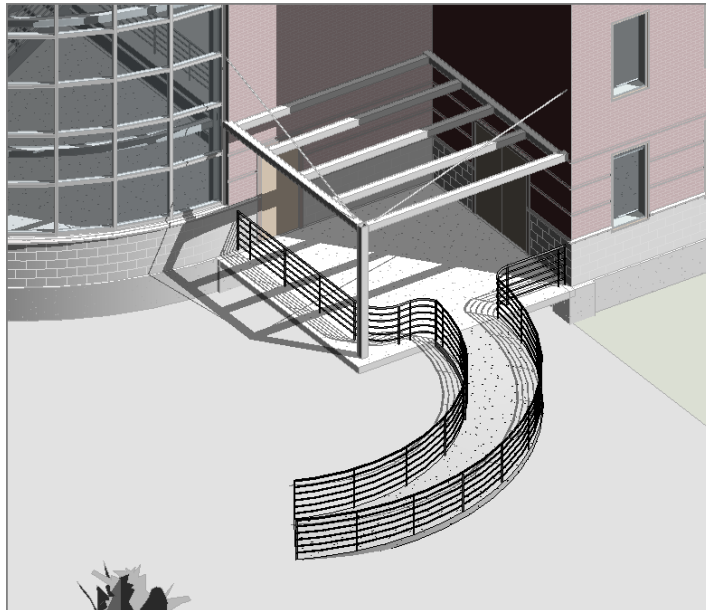

FIGURE 21.13: The curved option
2. The L-shaped items disappear. Draw a ramp and a railing similar to those shown in Figure 21.13. Remember, the ramp is from Level 1 to Level 1, with a -2'-6" (-750mm) bottom offset.